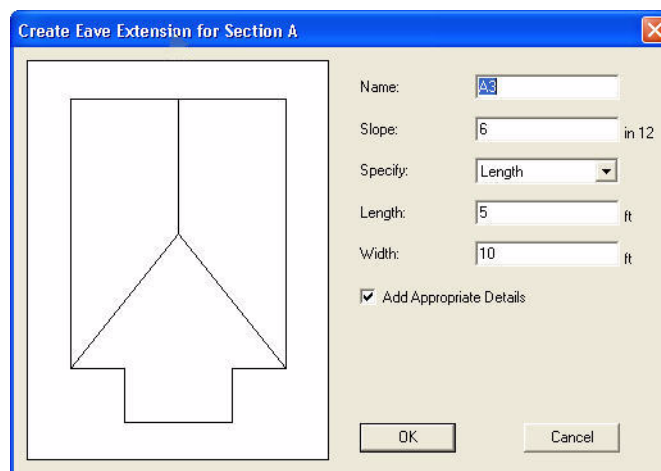

Figure 3-5 The Create Eave Extension window
The **Create Eave Extension** window appears, as in *Figure 3-5*.
2. Set the **Name**, **Slope**, **Specify**, **Length**, and **Width** options to match those in *Figure 3-5*, and ensure that the **Add Appropriate Details** check box is selected.